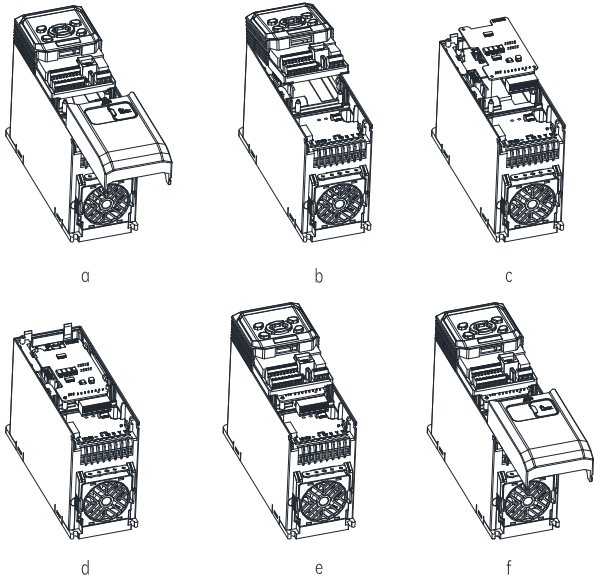

Fig. 7 PG card installation steps
- (1) When the drive is powered off, press the granulated part on the middle-upper of the lower cover, and slide it down firmly to take down the cover, as shown in Fig. 7-a.
- (2) Use a straight screwdriver to pry open the two snap-fit joints between the control box and the drive, and then remove the control box upwards, as shown in Fig. 7-b and c.
- (3) Install the PG*2S card: Hold the PG*2S card with its terminal block downwards, then align the three round holes on the PG*2S card with the location column, and press down to buckle the PG*2S card firmly into the four snap-fit joints, as shown in Fig. 7-d.
- (4) After the PG card is installed, align the control box with the snap-fit joints, and press down the control box to make its lower part firmly buckled, then slide the lower cover to lock it on the drive, as shown in Fig. 7-e and f.